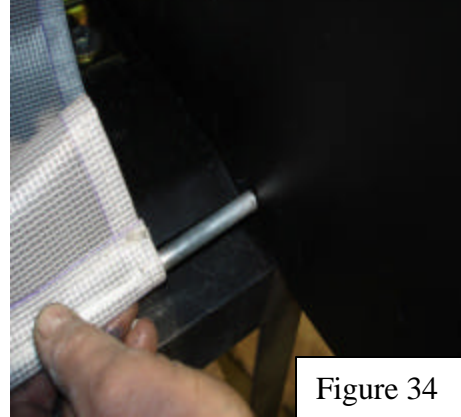

Figure 34
39. Install Diaper Rod (figure 34)